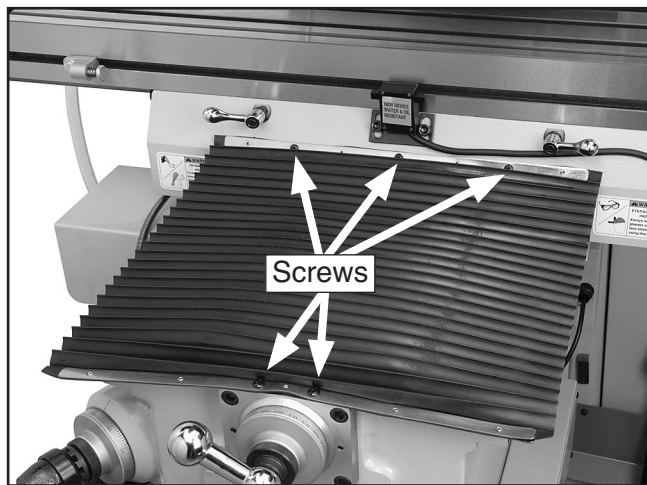

Figure 19. Front way cover installed.
10. Use the cross feed ball handle to move the table back to the column until you can position the front way cover on the saddle ways, then secure the cover in place with the five screws shown in **Figure 19**.